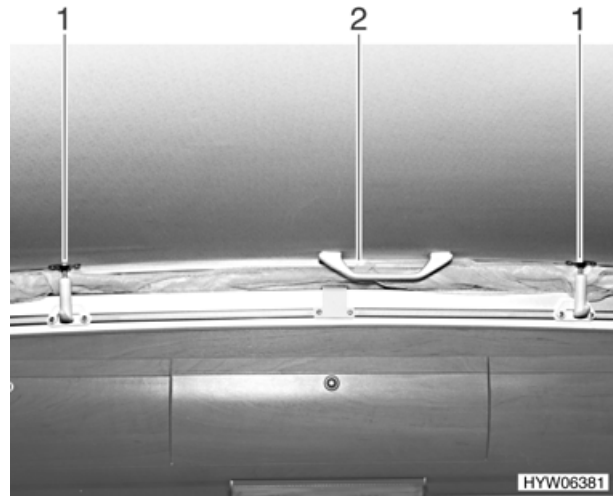

Fig. 23 Lifting roof, closed
- Remove all spring clamps (Fig. 23,1) downwards out of the holder.
- Press the lifting roof up (Fig. 23,2) using the handles.